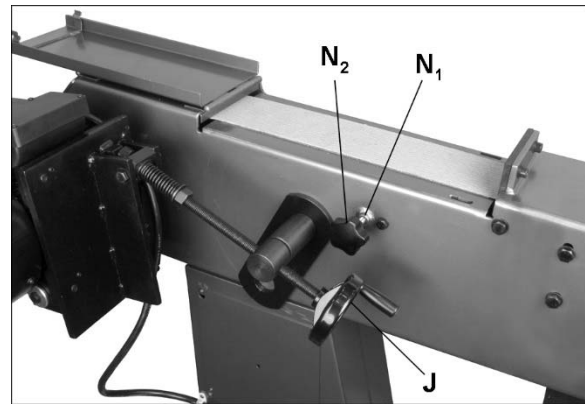

Figure 7-3
3. Remove tension from belt by rotating handwheel (J, Figure 7-3) counterclockwise.
4. Tension belt with handwheel (J).
2. Remove tension from abrasive belt (J, Figure 7-3).
1. Loosen hex nut (N1, Figure 7-3) counterclockwise.